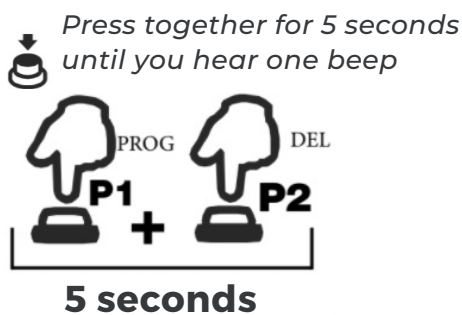

fig.11
Step 1 - In order to add handsets the unit needs to be placed into programming model, to do this press and hold both P1 & P2 buttons for 5 seconds and you will here 1 beep and the LED will light up (**fig.11**).